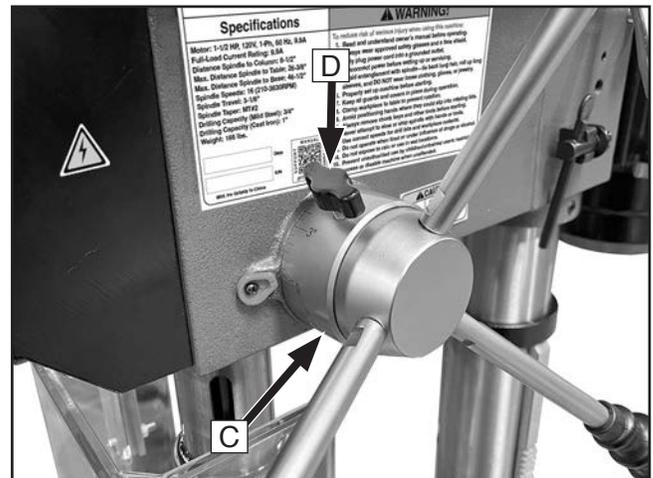

Figure 24. Depth stop components.
2. Turn the depth scale collar (see **C** in **Figure 24**) counterclockwise until it stops moving.
3. Tighten the depth scale lock knob (see **D** in **Figure 24**).